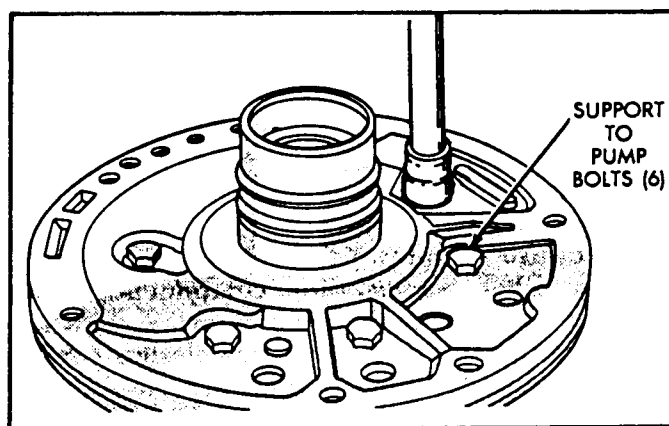

Figure 54
21. Torque the six bolts that attach the support to pump body to 15 ft.lbs, as shown in Figure 54.